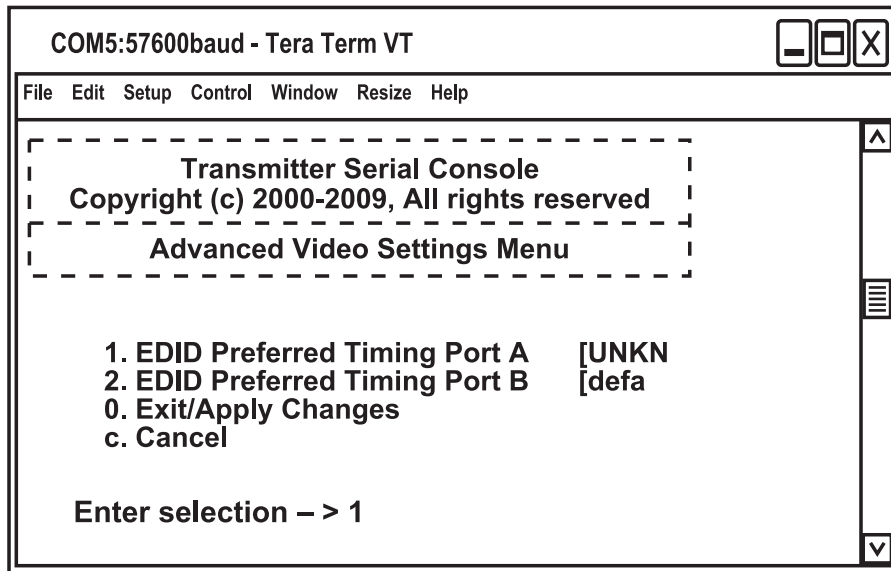

Figure 4-31. Advanced Video Settings Menu.
3. Press "7" to access the Advanced Video Settings Menu. See Figure 4-31.